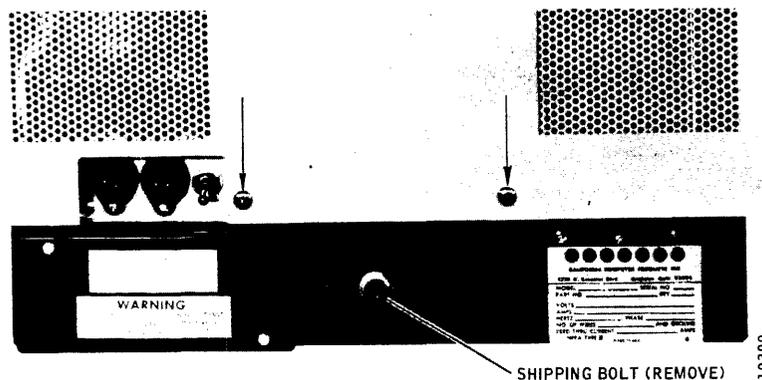

Figure 1-6. Rear Cover Screw Locations
1. Remove the rear cover from the disk drive for maintenance access. (Refer to Figure 1-6.)
2. The rear cover of the unit is removed by unscrewing the two screws at the rear of the cover (Figure 1-6) and then pulling the cover rearward and lifting it up.
If noise is experienced, make POWER OFF resistance measurements between the chassis frame (ac ground) and the base casting or card cage terminal E11 GND (dc ground). Resistance should be at least 1 megohm. If shorted, check the position of the power supply ground jumper wire first. Another possibility is that the shipping bolt that locks the base casting to the frame during shipment (Figure 1-6) is still in place. This should have been removed and discarded prior to initial installation.